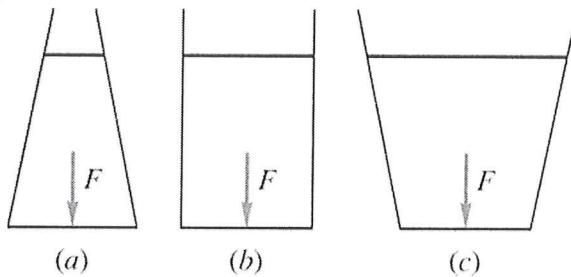

Figure 2
E. Figure 2 shows three containers which have the *same bottom area but different shapes*. Clearly, the weight of liquid in each tank is different due to differing volumes. The maximum pressure occurs at the bottom of which container?